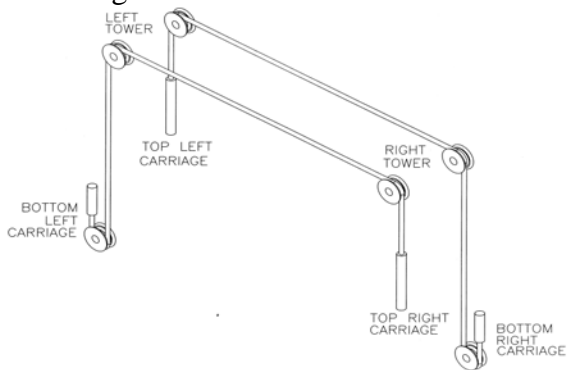
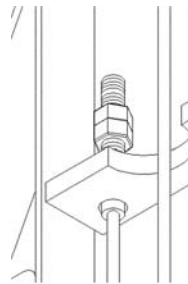
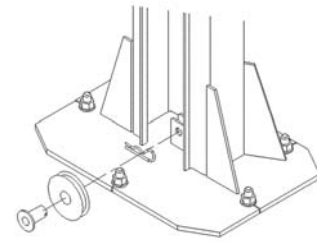

Figure 6a
Figure 6b
Figure 6c
2. Remove equalizing cables from the accessory kit box, and then locate the (8) ½”-13UNC nuts from a polybag in the hardware kit box.
3. Equalizing cables are to be routed as shown in **Fig. 6a**. Using the first cable, insert the short threaded stud through the 9/16” dia. hole at the bottom of the carriage, and feed upwards until the stud comes through the top of the carriage. Place a ½”-13UNC nut at the center of the stud, and then **firmly tighten** a second nut up against it using two wrenches. Pull the cable back down through the bottom of the carriage. (**Fig. 6b - cross-sectional view of bottom of carriage**).
4. At the bottom of the column, remove the hitch pin, pulley pin and pulley from the baseplate (**Fig. 6c**). Route equalizing cable around pulley and reassemble the pulley to the baseplate. **IMPORTANT – Hitch pin must be installed securely**. Then route the cable up through the carriage, around the pulley at the top of the column, across the crossmember, around the pulley at the top of the other column and then down (**Fig 6a**). Insert the threaded stud into the 9/16” Dia. hole in the top of the other carriage.